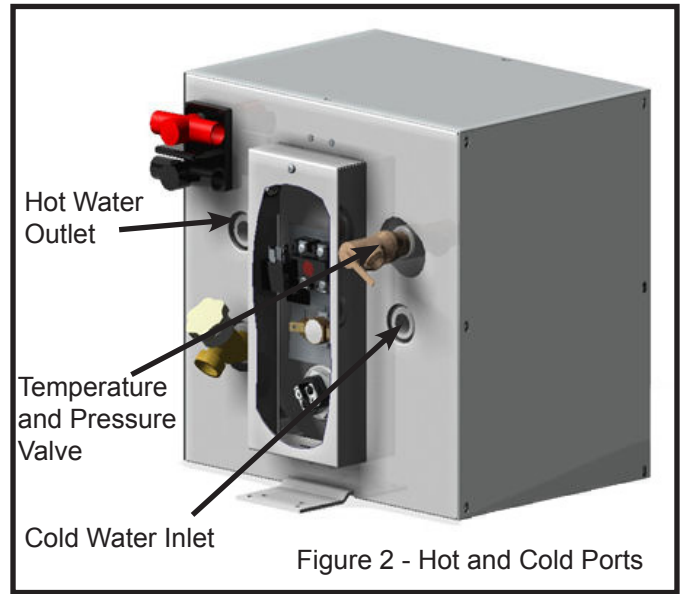

Figure 2 - Hot and Cold Ports
**Step 2** Connect the cold water supply and hot water outlet to heater (see figure 2) using ½" N.P.T. fittings or WX1514 / WX1524B for a Whale® Quick Connect system.